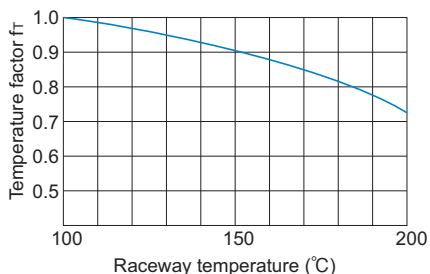

Fig.3 Temperature Factor ( $f_T$ )
- $f_T$  : Temperature factor (see Fig.3 on **B5-6**)
If the temperature of the environment surrounding the operating model ST exceeds 100°C, take into account the adverse effect of the high temperature and multiply the basic load ratings by the temperature factor indicated in Fig.3.